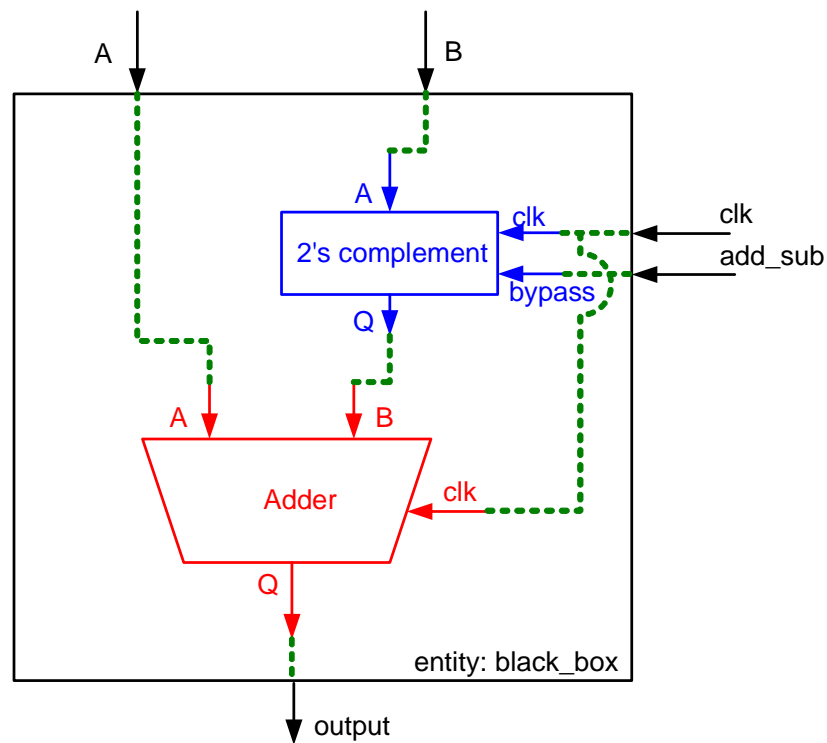

Figure 10. Adder – Subtractor schematic.
In this section we'll use what we just learn to implement the adder/subtractor shown in figure 10. The adder block and the 2's completer block will be created using Coregen. You will need to create a wrapper file and structural description to connect these elements together and build the system.
From the lecture notes it is known that in order to subtract ( $A - B$ ) two numbers in 2's complement representation the operand (B) must be complemented and the result added to the second operand (A). Schematic shown in figure 10 has a 2's complement block with a signal named **bypass** which will enable or disable the 2's complement block according to the **add\_sub** input signal of the system. Let say we want to add A and B. **add\_sub** signal will then be high (1) and the 2's complement block will be bypassed. As a result A and B get added by the Adder block. Let say that now we want to subtract A and B ( $A - B$ ). **add\_sub** signal will now be low (0), the 2's complement block will take B and calculate its complement to send it to the Adder block. The adder block will add A and the 2's complement's of B which is equivalent to subtract B from A ( $A - B$ ).
6. Complete the system description; Using structural description; complete the description of the system filling out the connections in the component instantiation section of the code, following the schematic shown in figure 10. The connections you have to complete are drawn in green. Note that the output “**Q**” of the 2’s complement block is 6 bits wide and the input B of the adder-subtractor is only 5 bits wide. Here you will have to left unconnected the most significant bit of “**Q**”. (Hint: instead of connecting “**Q**”, connect only **Q(4 down to 0)**). This will left unconnected Q(5)).